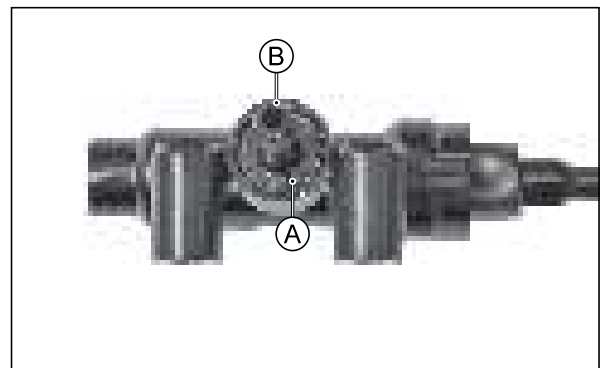

Fig. 6.131
- By firmly holding master cylinder housing, remove the circlip (A) by using circlip plier. (Fig. 6.131)
- Take out the insert (B) from the master cylinder assembly. (Fig. 6.131)